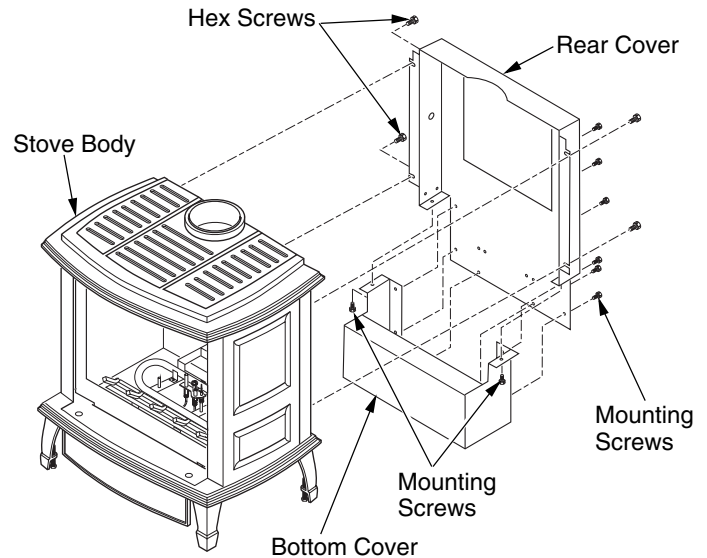

Figure 16 - Removing Rear Cover and Bottom Cover from Stove Body
1. Remove 4 hex screws securing rear cover to back of stove body (see Figure 16).
2. Separate bottom cover from rear cover by loosening the 8 mounting screws (see Figure 16).
- Reattach bottom cover to rear cover with 8 screws (see Figure 16, page 7). Make sure that you don't pinch any wires during reassembly. Route power cord through plastic bushing in bottom of rear cover.